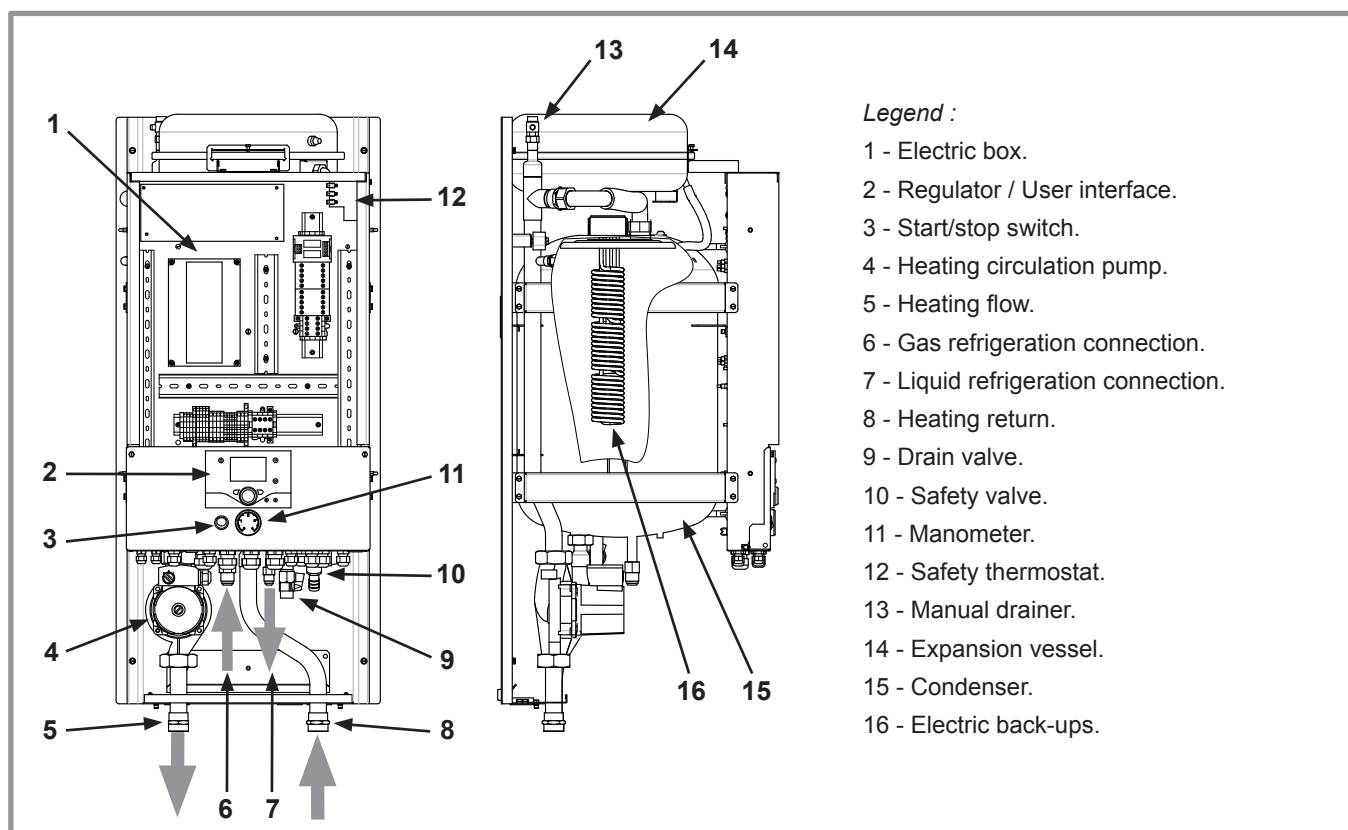

Figure 8 - Hydraulic unit components
- In the condenser (rep. **15**, figure 8, page 10) :